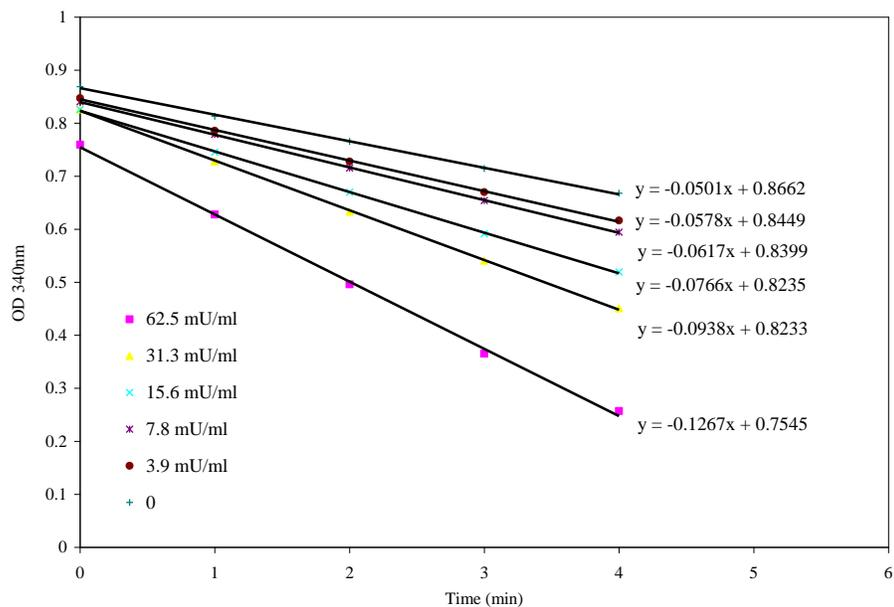
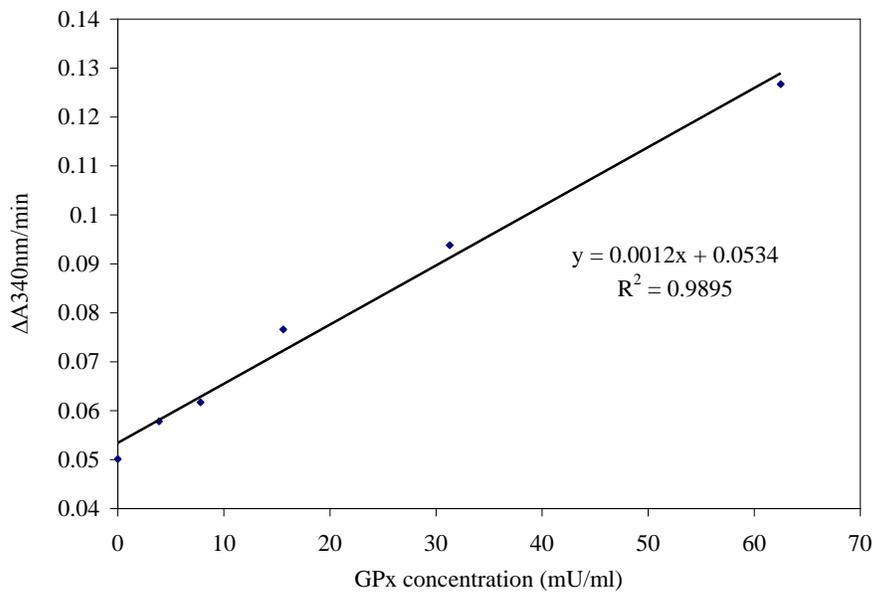

Figure 1. Absorbance at 340 nm as a function of time (interval: 1 min; Number of reading: 5).
Figure 2. GPx standard curve of $\Delta A_{340nm}/min$ vs. GPx concentration.
Serially diluted GPx solutions with concentrations ranging from 62.5 to 3.9 mU/ml are measured with the ScienCell™ Glutathione Peroxidase Assay. The decrease in A_{340nm} is monitored as a function of time (Figure 1), and the resulting standard curve of ΔA_{340nm}/min vs. GPx concentration are plotted (Figure 2). A positive linear relationship between ΔA_{340nm}/min & GPx concentration can be observed.
1. Plot the absorbance at 340 nm as a function of time to obtain the slope ($\Delta A_{340\text{nm}}/\text{min}$) of the linear portion of the curves (e.g. Figure 1).
2. Plot a GPx standard curve of $\Delta A_{340\text{nm}}/\text{min}$ vs. GPx concentration (e.g. Figure 2).